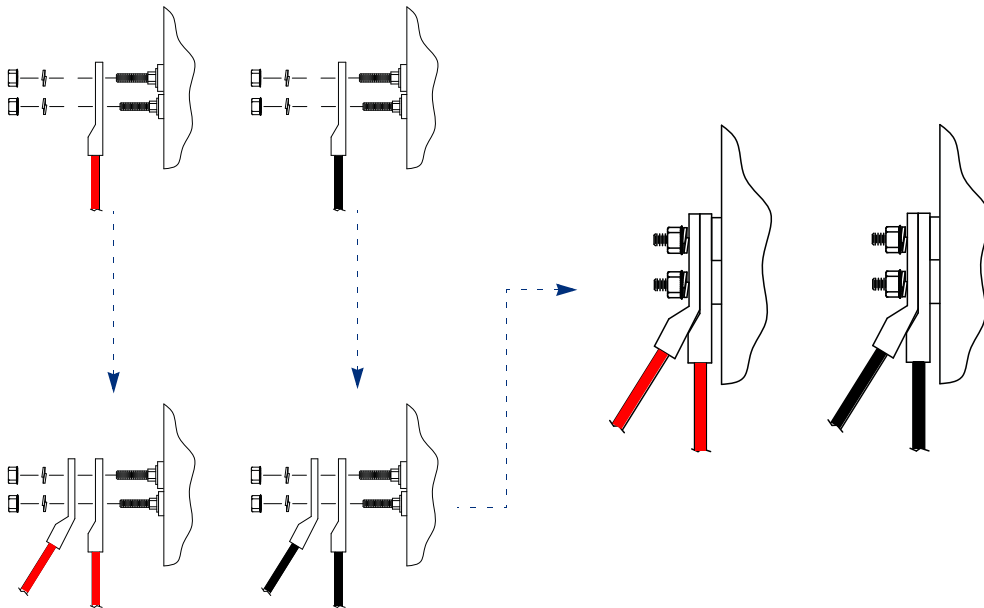

Figure 10. AC Power Supply, DC connector assembly- PEM Redundancy
15. Place the 2 sets of DC wires (flat-angled and 45°-angled) such that both sets of wires exit in the same downward direction as seen in Figure 10 below.